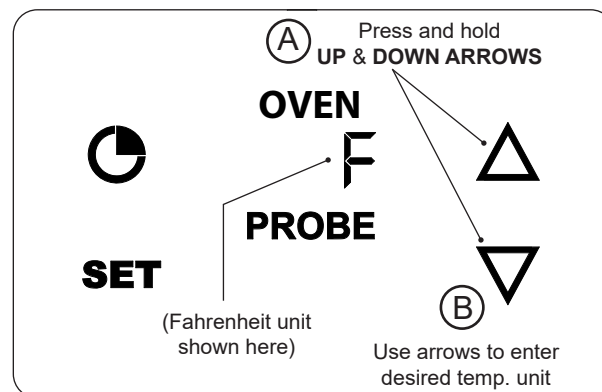

Fig. 42-3 Change temp. unit
1. Press and hold the **UP** and **DOWN** arrows until °F or °C is displayed (Fig. 42-3, A).
2. Press the **UP** or **DOWN** arrow to select the desired temp unit (Fig. 42-3, B).